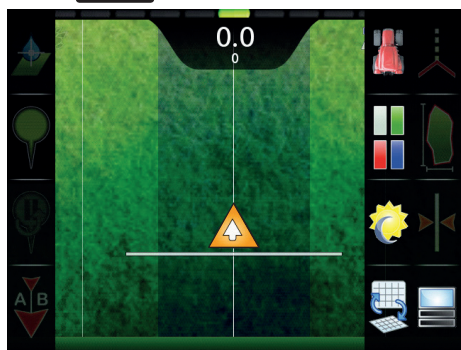

Fig. 378
- 2 Press **F8**. A list of options concerning display modes will appear (Fig. 378). Pressing each key will enable the corresponding function: